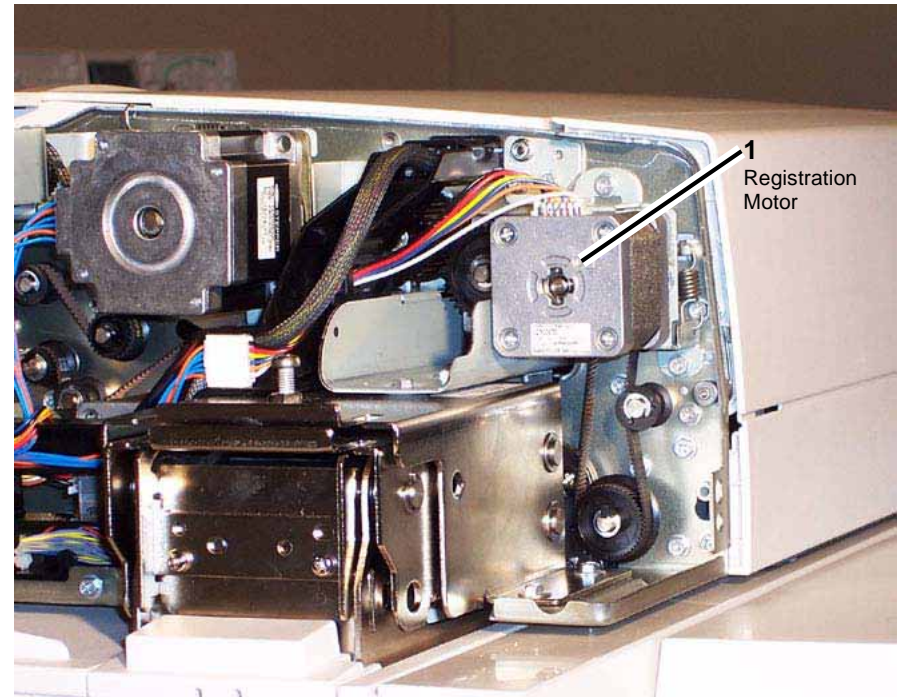

Figure 1 DADF Registration Motor
3. Remove the DADF Registration Motor. Figure 1
- c. Remove the (2) securing screws.